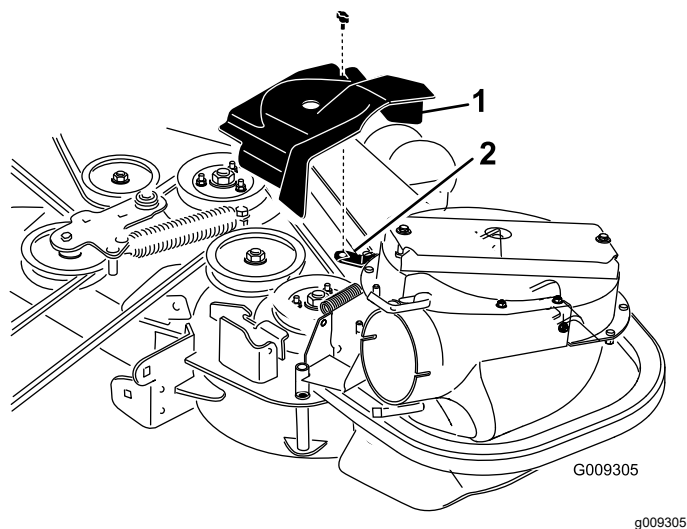
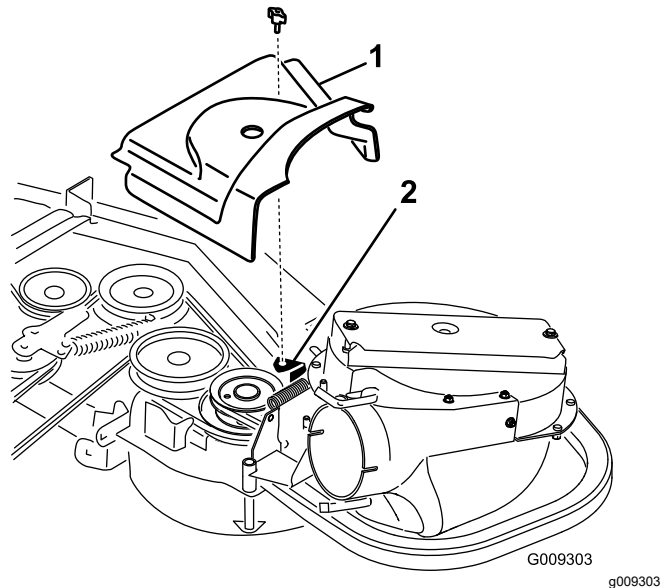

Figure 28
Figure 29
2. Install the new belt cover so that the notches on both sides go over the belt-cover supports and secure the latch (Figure 28 or Figure 29).